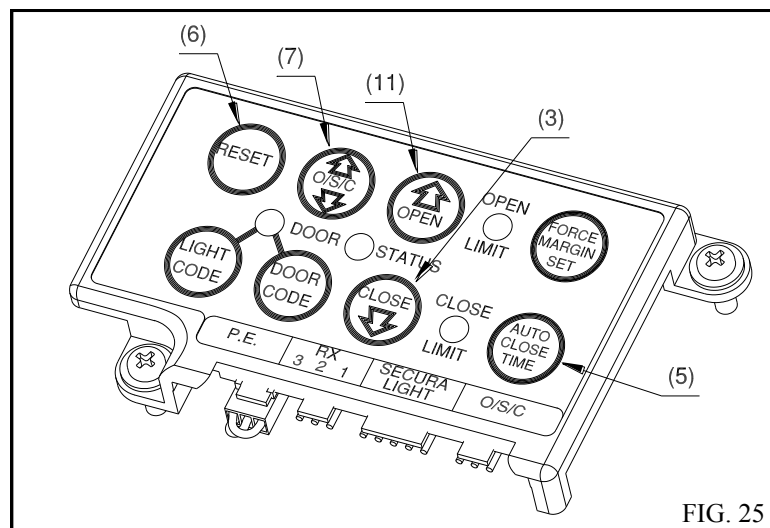

FIG. 25
1. Press in and hold the Auto Close Time button 5 (FIG. 25).
2. While holding in the Auto Close Time button, press the green Open button 11 (FIG. 25). Each press of this button will add 5 seconds to the preset auto close time of '0' seconds.
4. Press the O/S/C button 7 (FIG. 25) or Transmitter to open the door. While the door is opening break the path of the P.E. Beam, this will initialise the auto close mode. When the door reaches the fully opened position, the door will pause for the set auto close time and start to auto close.